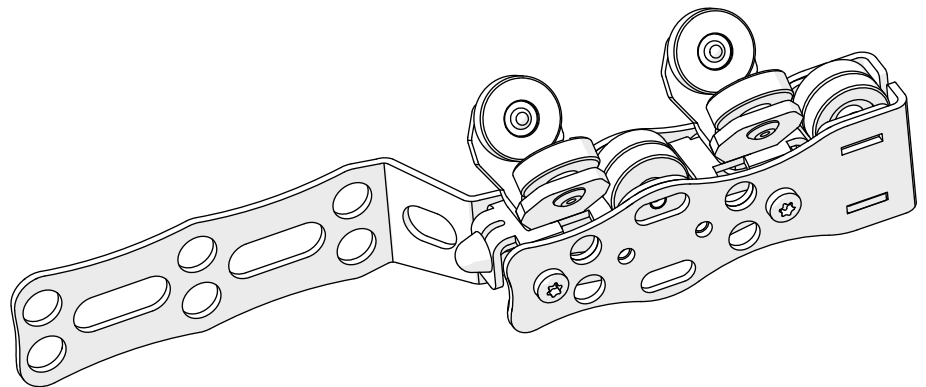

Fig. 55: Completed conversion – Master runner with overlap arm on one side
- ✓ The master runner is fully assembled (see Fig. 55).